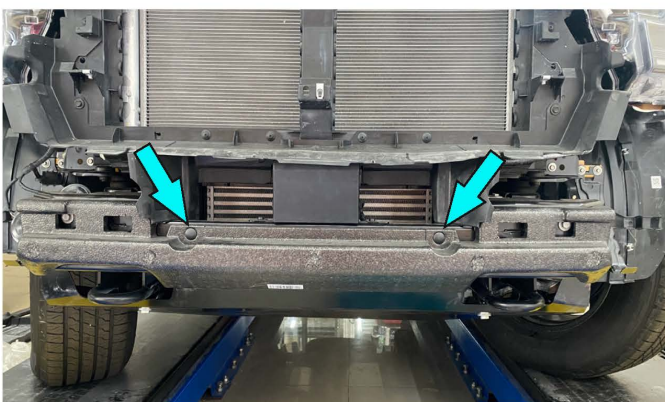

Fig.11
11. Remove plastic clips and remove damper (fig.11).